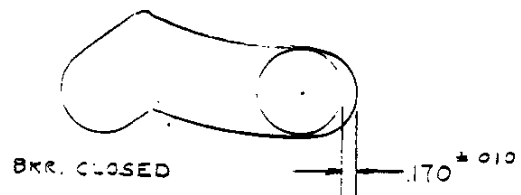

FIG. D4
15. Slow close the breaker. Adjust the pushrod so that the gap between the cam follower roller and the end of the slot is $.170 \pm .005$. SEE FIG. D4.